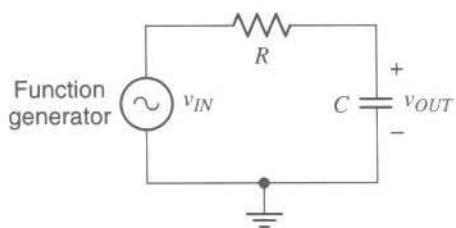
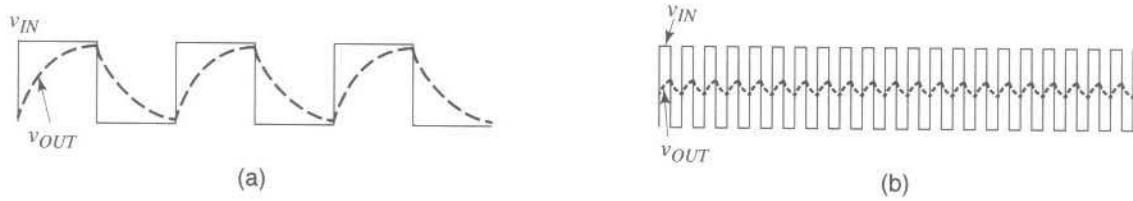
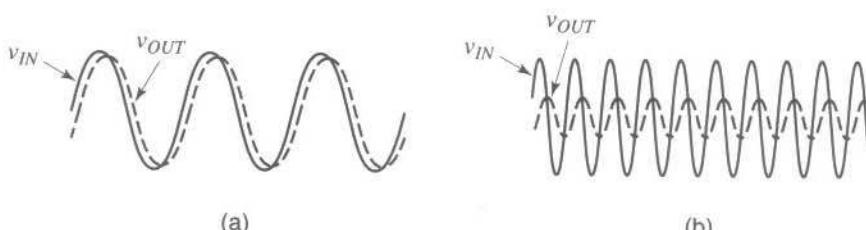
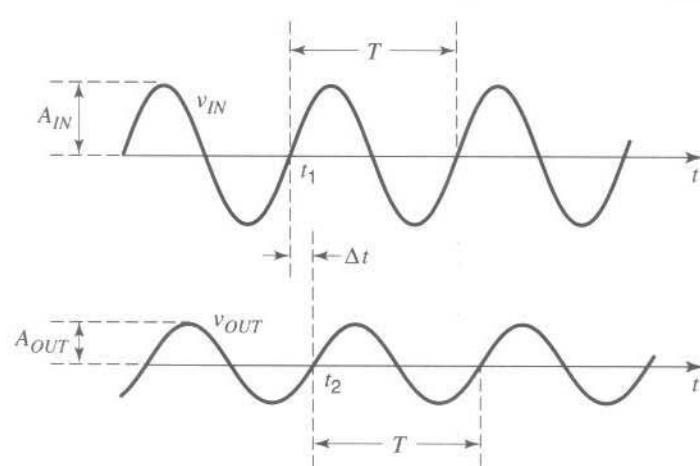

Fig. 1
Fig. 2
Fig. 3
Fig. 4
13. To verify your prediction in the previous step, you need to display the waveform for v_R . However, you *cannot* connect a probe's input across the resistor. If you did so, where would the ground clip of the probe be attached? If it were attached to the resistor terminal on the right, it would place a ground at that point, and then the capacitor would be shorted out since its bottom terminal is also at ground (see also Fig. 2 of Experiment 3 and the associated discussion). If, instead, the probe's ground clip were attached to the resistor terminal on the left, it would short out the function generator, which would be even worse, as damage could be caused to the generator. Voltages like v_R , defined across two terminals, neither of which is grounded, are sometimes referred to as floating voltages.
Consider the circuit of Fig. 1. In Experiment 6, you saw that if a square wave with a large period is applied to its input, the capacitor has the time to charge or discharge almost fully during each half interval, as shown in Fig. 2(a). The output then follows the input rather closely. If, however, the period of the input is made small, the output capacitor does not have time to charge or discharge fully, and the situation illustrated in Fig. 2(b) is observed. Now the output cannot follow the large excursions of the input, and its excursions become small.
These observations do not hold only for square wave inputs. Other shapes, such as triangle or sinusoidal, show qualitatively the same behavior. This is illustrated for a sinusoidal input in Fig. 3. As seen, low input frequencies allow the output to virtually follow the input, as seen in Fig. 3(a). We say that the low-frequency input signal “passes” to the output. On the other hand, when the input frequency is high, the output cannot follow the input, as shown in Fig. 3(b), and the output amplitude becomes small. The input signal, to a significant degree, is rejected, or “does not pass,” to the output. For these reasons, the circuit is said to be a *low-pass filter*. Many different circuits are low-pass filters, but we will concentrate on the simple one in Fig. 1 and study it in detail.
Because at very low frequencies the capacitor voltage is almost equal to the input voltage, as shown in Fig. 3(a), we say that “at very low frequencies, the capacitor in Fig. 1 acts almost as an open circuit.” Indeed, if the capacitor in Fig. 1 were replaced by an open circuit, the resistor current would be zero, and thus the voltage across the resistor would also be zero; the output voltage would then be equal to the input voltage. At high frequencies, on the other hand, the capacitor voltage is small, as shown in Fig. 3(b), and if the frequency is made very high the capacitor voltage is almost zero; because of this, we say that “at very high frequencies, the capacitor in Fig. 1 acts almost as a short circuit.” Indeed, if the capacitor in Fig. 1 were replaced by a short circuit, the output voltage would be zero.
Consider a linear circuit and assume that, at a given frequency, the input and output signals are as shown in Fig. 4. The amplitude of the input is A_{IN} , and that of the output is A_{OUT} . To indicate to what extent the input signal has passed to the output, we define the voltage gain magnitude, G :
The value of G depends on the circuit and the input frequency. For an amplifier, it can be much larger than 1. For the circuit of Fig. 1, it cannot exceed 1.
In Fig. 1, because the RC circuit shows some “inertia” (it takes time for the capacitor to charge or discharge before the output can rise or fall significantly), the various features of the sinusoidal output waveform (peaks, valleys, and zero crossings) appear to occur somewhat later than the corresponding features of the input waveform. We say that the output signal is *phase-shifted* with respect to the input signal. The phase difference between the output and the input can be determined with the help of Fig. 4. With the period T corresponding to 360 degrees, the phase difference between the two waveforms will be $[(\Delta t)/T] \times 360^\circ$, where $\Delta t = t_2 - t_1$, as shown in the figure. This is the phase by which the top waveform leads (is ahead of) the bottom one or, identically, the phase by which the bottom waveform lags (is behind) the top one. It is common to quote instead the phase by which the bottom waveform *leads* the top one; this is the *negative* of the above quantity and will be denoted by ϕ . Thus,
The values of G and ϕ depend on how fast the signal is varying in relation to the circuit's "speed." Consider, for example, the circuit of Fig. 1. We have seen in Experiment 6 that a measure of the circuit's "slowness" is its time constant, $\tau = RC$. Thus, a measure of the circuit's speed is the inverse, $1/\tau = 1/(RC)$. It is common to consider how the circuit behaves when the input's angular frequency ω (in rad/s) is equal to this measure. Since $\omega = 2\pi f$, where f is the frequency in Hz, we are interested in the behavior of the circuit at a critical frequency f_c for which $2\pi f_c = 1/(RC)$; thus f_c is given by
1. Connect the circuit of Fig. 1, using $R = 16 \text{ k}\Omega$ and $C = 10 \text{ nF}$. Set the input frequency at 1 kHz and its amplitude (peak value) at 2V. Monitor the input waveform on the scope's channel 1 and the output waveform on channel 2, with both channel inputs set at AC. Use $\times 1$ probes. The sensitivity of the two channels (V/div) should be the same, and the variable sensitivity control for each should be in the calibrated position. The trigger source selector should be at channel 1, the trigger coupling at AC, and the trigger slope at positive. You should be able to obtain a display like that in Fig. 4. Carefully establish the 0 level for each waveform by using the ground setting for each scope input, and align this level with a main graticule horizontal line, using the vertical position control.
6. The phase shift between the output and the input, ϕ , was defined under Background above. Measure this quantity, with the input frequency equal to the cutoff frequency f_c that you determined in step 3. To make this measurement easier, move one of the two waveforms vertically, so that its 0 level coincides with the 0 level of the other waveform (use the ground input mode on the scope to establish the 0 levels accurately). Then Δt can be easily estimated as the horizontal displacement between two zero crossings, as shown in Fig. 4.³ Is the phase shift at f_c approximately equal to the theoretically predicted value of -45 degrees?